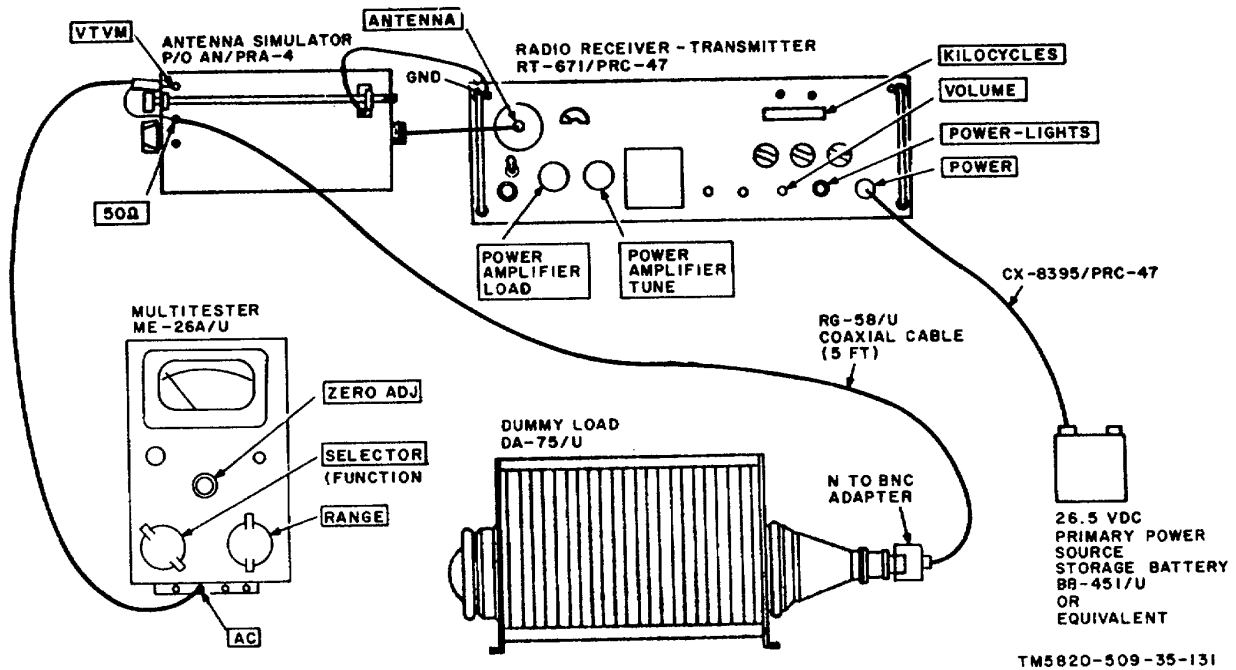

Figure 4-4. Transmitter Power Output and Output Meter Sensitivity Tests, Equipment Setup.
(fig. 4-4)
(1) Connect the test equipment to Radio Receiver-Transmitter RT-671/PRC-47 as shown in figure 4-4.
(2) Connect the primary power source to the receiver-transmitter.
(3) Turn on the test equipment and place the POWER-LIGHTS switch on RT-671/PRC-47 to POWER ON. Permit the equipment to stabilize at least 5 minutes before beginning the procedures shown in the chart below.